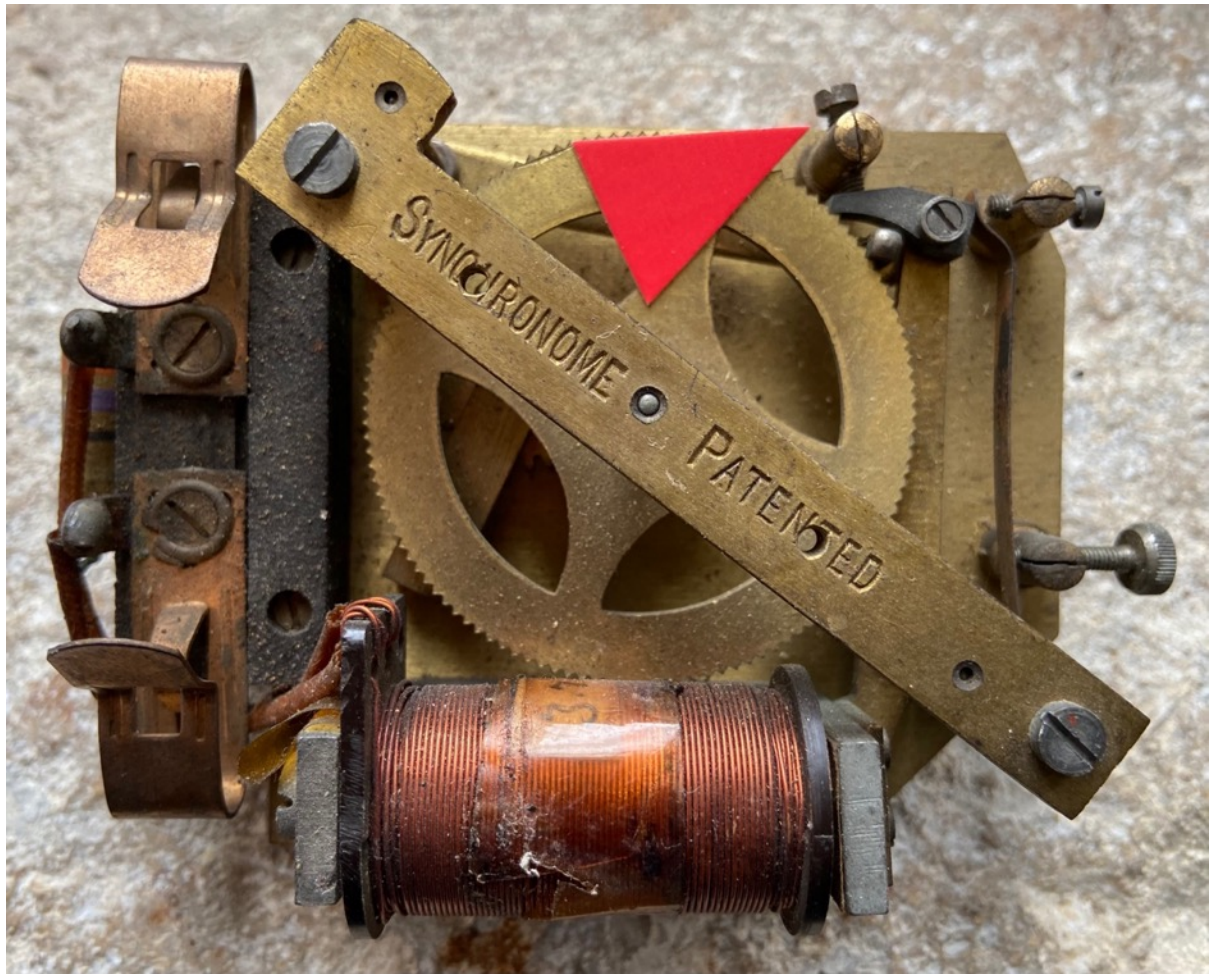

Figure 7 – Click released adjustment stop.
2. Now adjust the click released adjustment stop (Figure 7) such that the click/pawl advances the 120 tooth wheel just enough to give a very small clearance between the backstop pawl and the tooth against which it acts. This should be very small to allow for tolerances, thermal expansion etc. It is important that this stage to check and